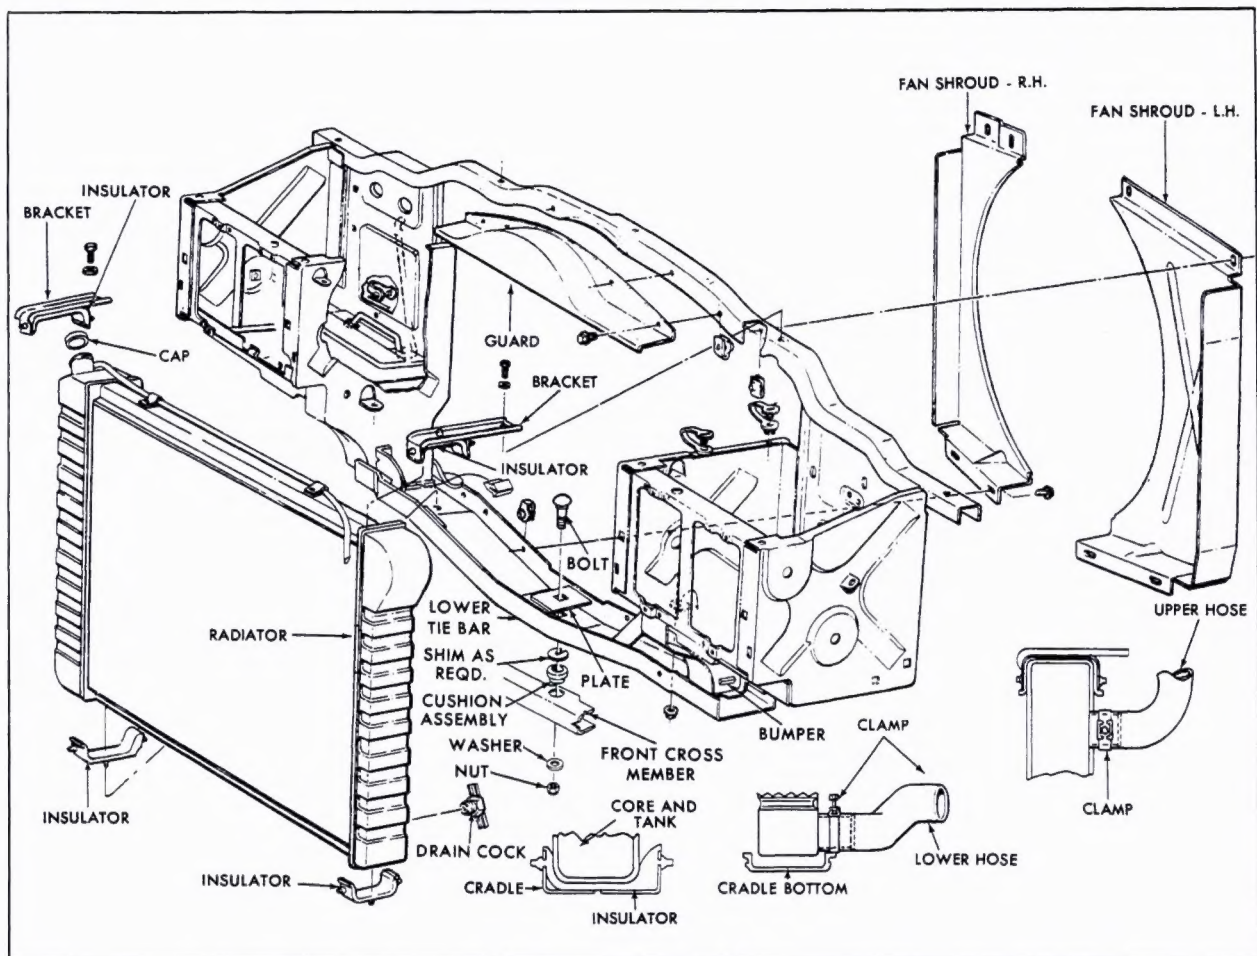

Fig. 13-6 Eldorado Radiator and Cradle Assy.
The radiator used in the Fleetwood Eldorado is similar to the radiator used in all other 1969 Cadillac cars, utilizing the cross-flow principle, Fig. 13-6. All recommendations and cautions that apply to the radiator used on other 1969 Cadillac cars should also be exercised when servicing the Eldorado radiator.
##### a. Removal (Fig. 13-6)
#### b. Installation (Fig. 13-6)
**NOTE:** The center cradle support, Fig. 13-6, is new for 1969. It incorporates a compression type rubber mount for improved noise and vibration isolation. The number of shims required is determined by the proper alignment of the front sheet metal to the body shown in Fig. 11-10. After sheet metal alignment is achieved, attempt to rotate the pad between the cradle and the frame. If the pad can be rotated with the fingers, add shims until pad can no longer be rotated.